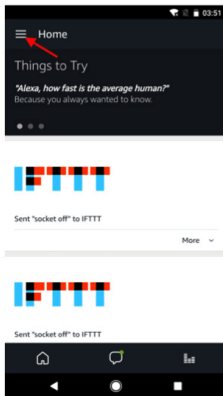
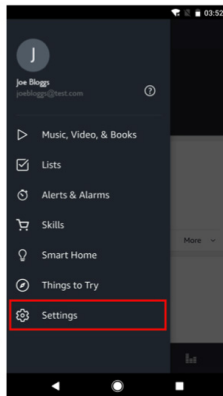
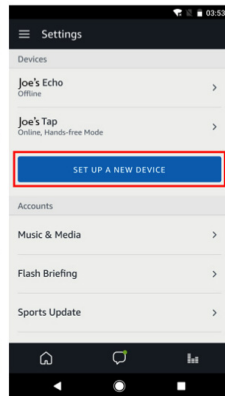

fig.3
fig.4
fig.5
- Select the "Menu" option in the top left corner (fig.3), select "Settings" (fig.4), then tap "SET UP A NEW DEVICE" (fig.5).